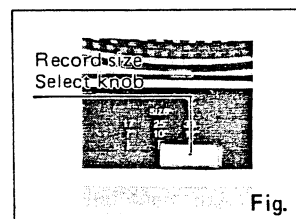

Fig. 5
2. Set the record size select knob to the diameter of the record (7" (17 cm), 10" (25 cm) or 12" (30 cm)) you wish to play (See Fig. 5.)